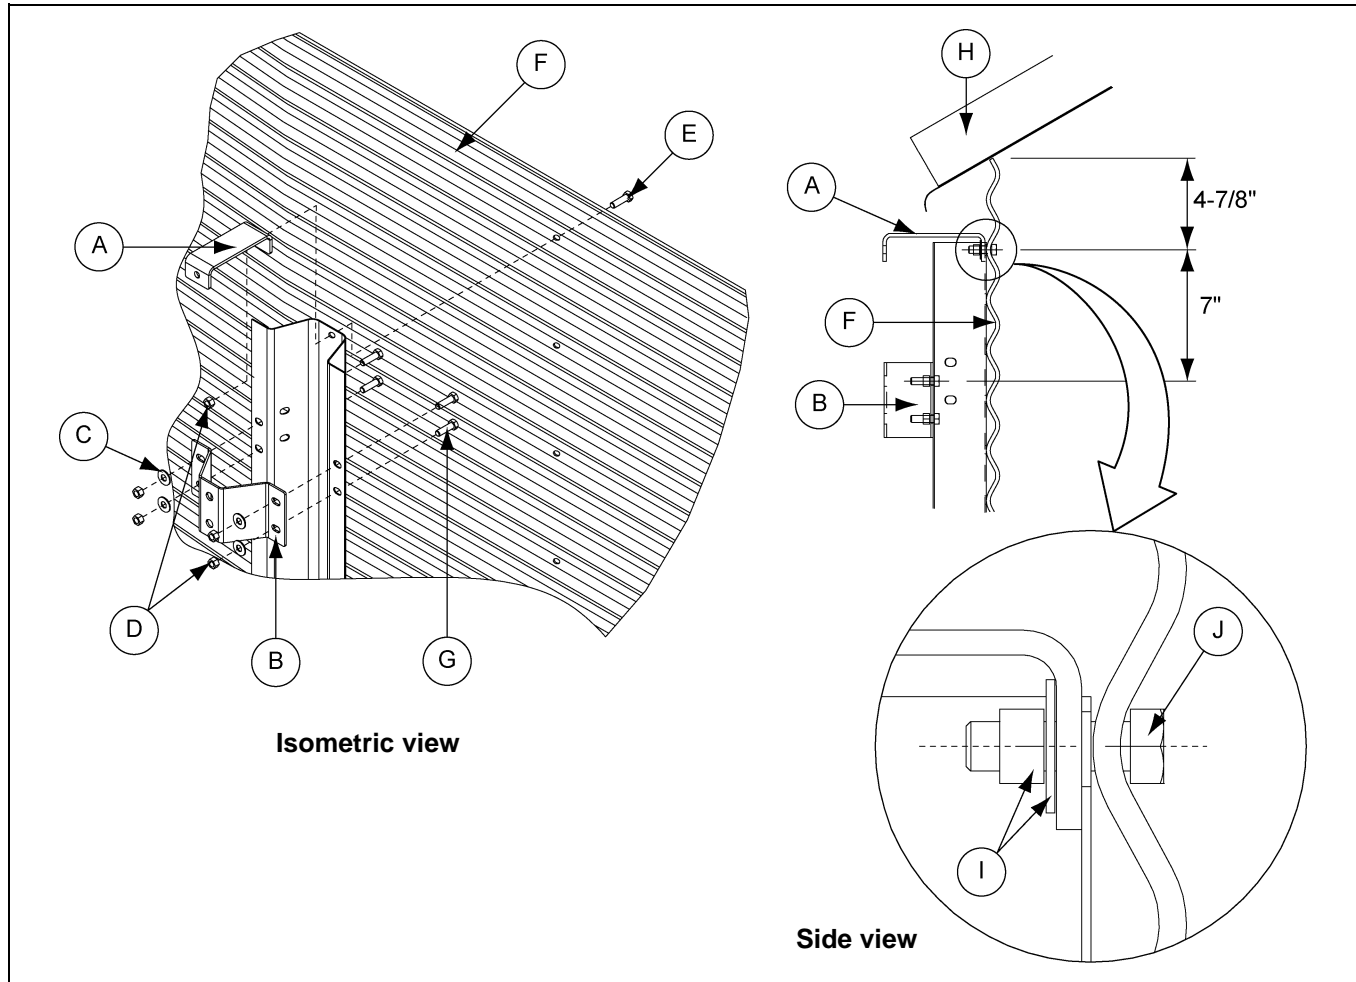

Figure 3B
The top and stiffener brackets (A and B) should be installed on the top stiffener as shown in the Figure 3B. Install the top bracket with the 3/8" bolt used to attach the top stiffener. (Install the top bracket (A) on the outer face of the stiffener.) Use 3/8" hardware to attach the stiffener bracket (B) through the splice holes in the top stiffener.